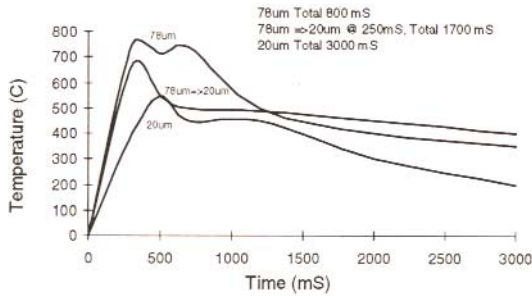

Figure 3. Weld area temperatures at different amplitudes
In terms of (A), the average heating rate of the polymer is proportional to the amplitude squared. It is possible, therefore, to control the temperature (similar to controlling the barrel temperature in an injection molding machine) by controlling the amplitude. Actual temperatures are seen below at different amplitudes (Figure 3, over).